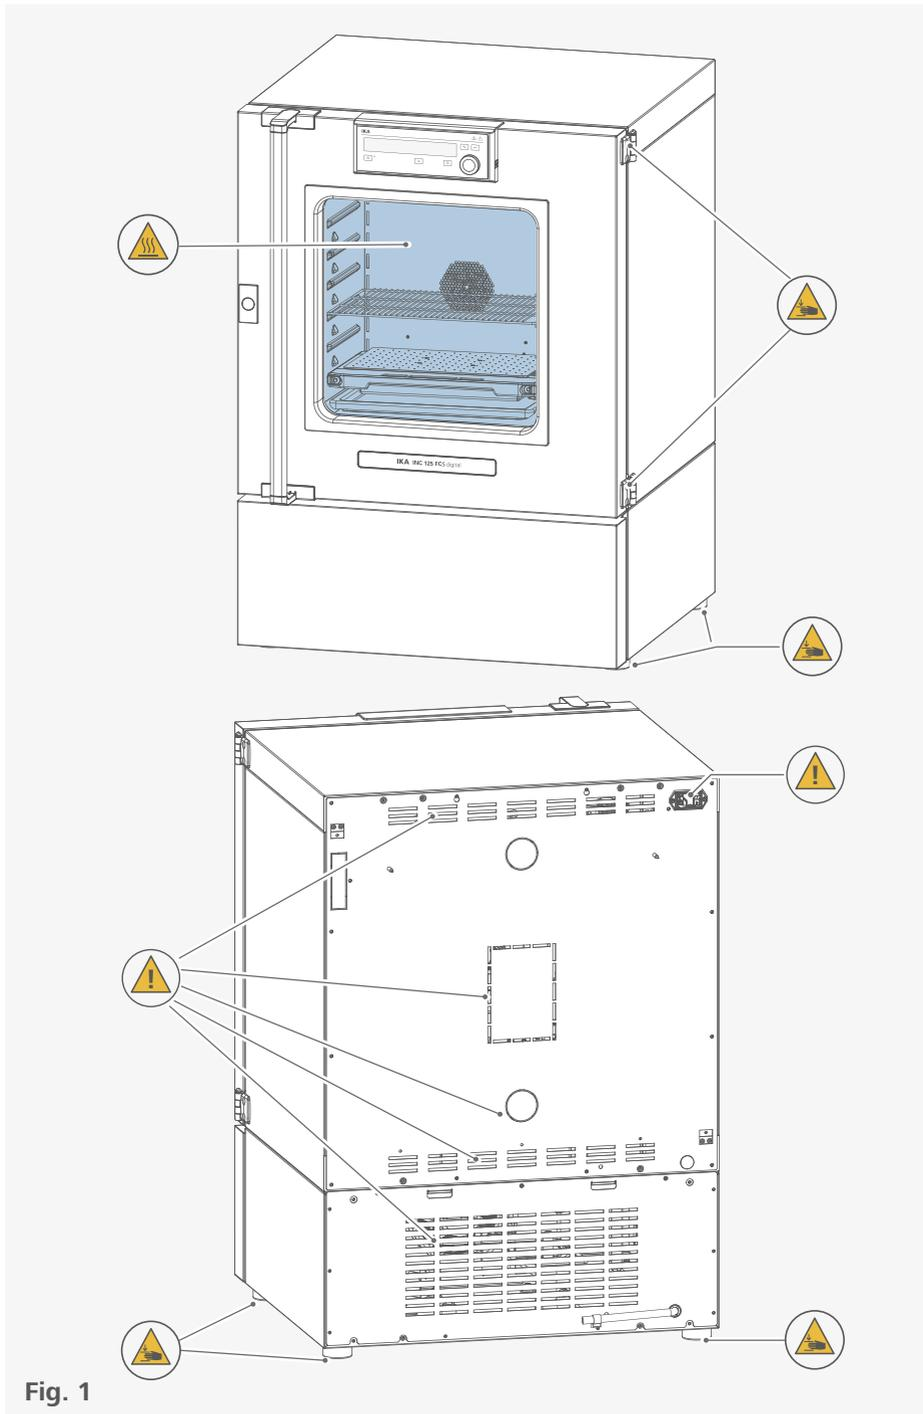
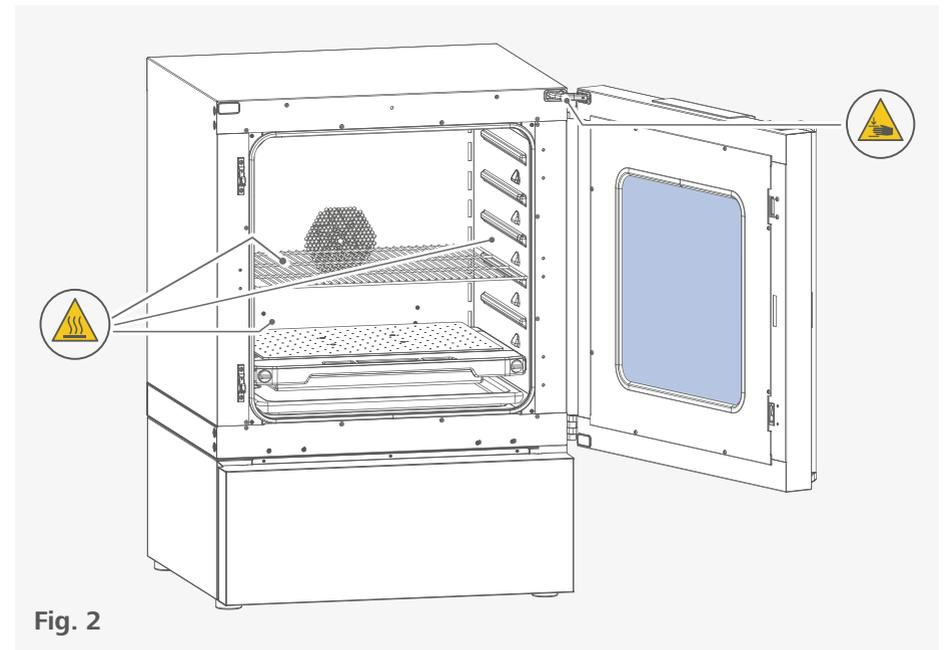

Fig. 1
Fig. 2
- › Pay attention to the marked sites in Fig. 1 and Fig. 2.